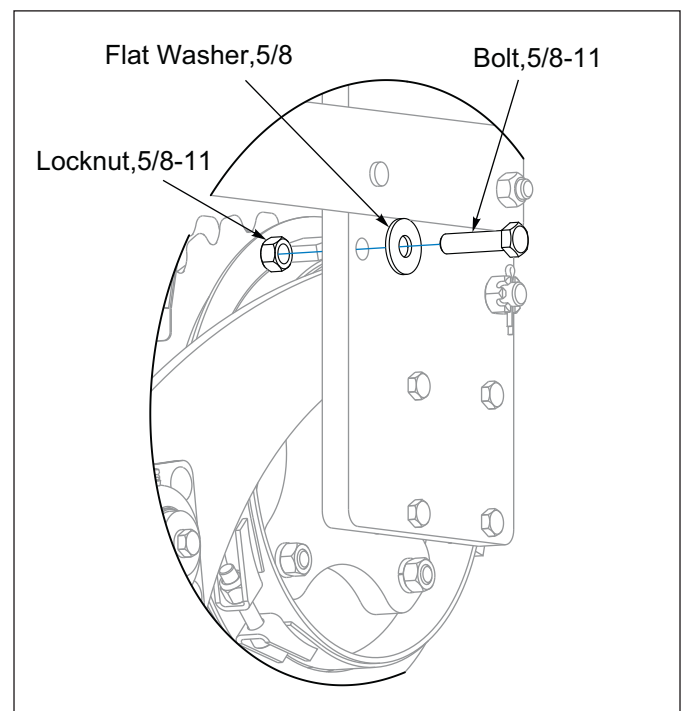

Figure 2-6: Shipping Bolt
6. On the right side of the Seeder Frame, in a similar position as the Parking Pin, remove the 5/8-11 Shipping Bolt that also locks the Rear Roller down. **See Figure 2-6.**